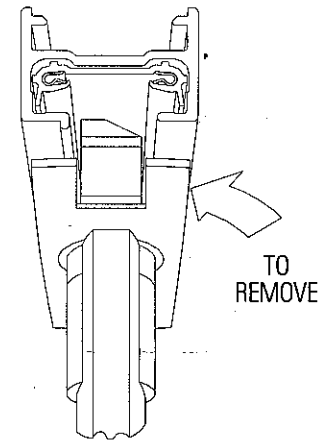

FIG. 3
3. Rotate FITTING until LOCKING LEVER snaps and locks in place (see Fig. 3.)